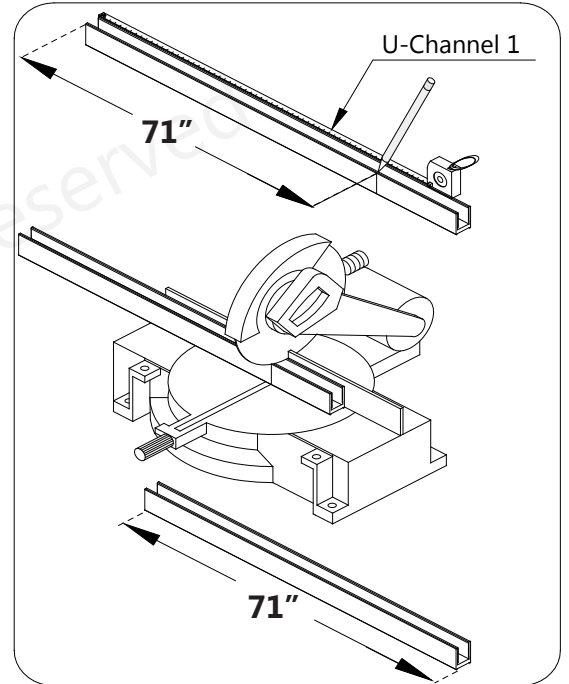

Fig 10
10. Cut the **Vertical U-channel 1 (#09)** to **71"**. (Fig 10)